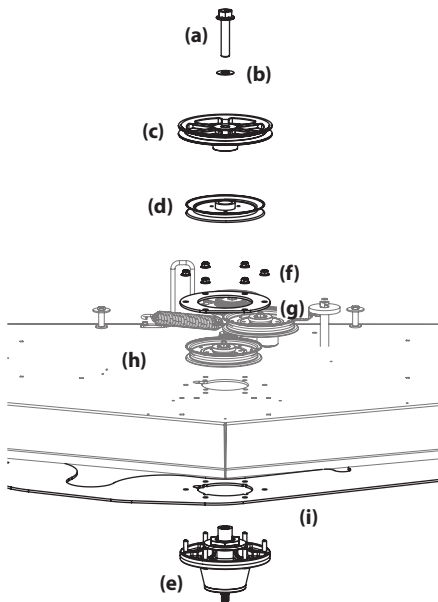

Figure 4-26
- Remove the hex flange bolt (a) and flat washer (b) securing the drive pulley (c) and center spindle pulley (d) to the spindle assembly (e). See Figure 4-26.
- Remove the six (6) flange lock nuts (f) securing the center (d) spindle assembly (e) and the support plates (g) to the deck shell (h). See Figure 4-26.